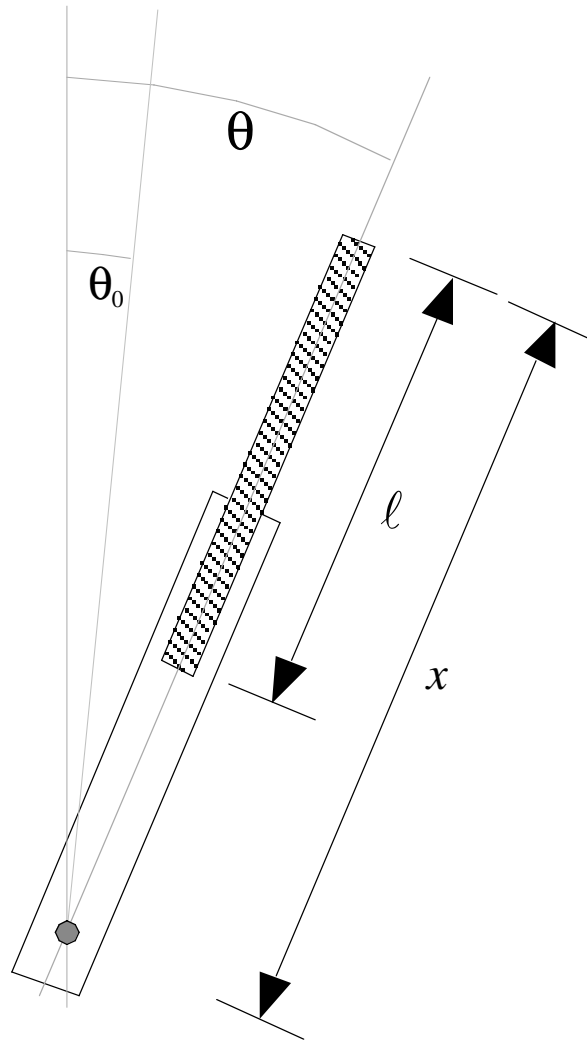

Figure 3: The variables θ and x and the parameters θ_0 and ℓ are shown here.
4. Write the pendulum equation of motion in the case of a horizontal rotation axis, as a function of the angle θ (see figure 3) and of x , κ , θ_0 , M_1 , M_2 , the total moment of inertia I and the position $R(x)$ of the center of mass. *[1 point]*